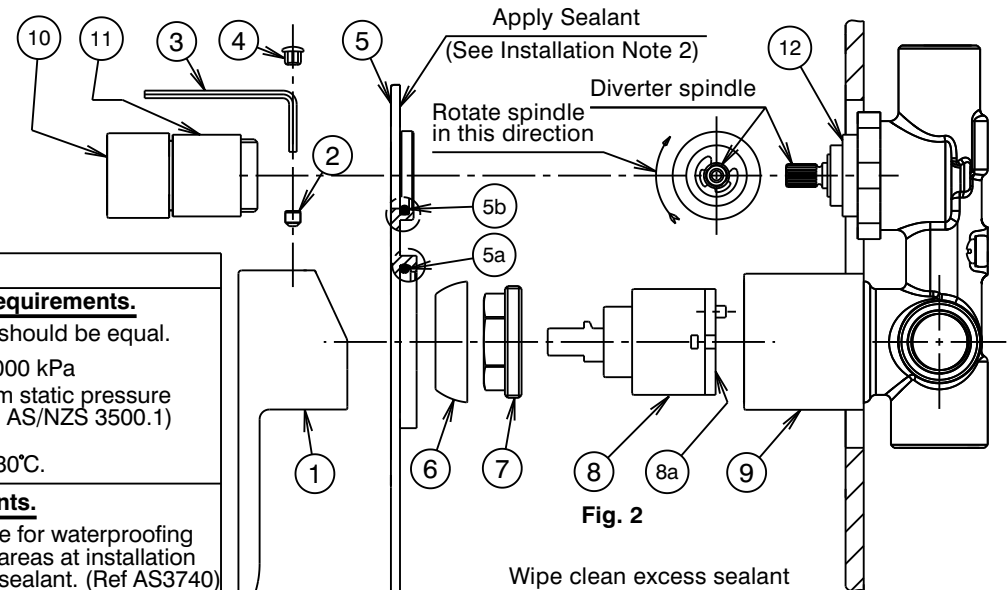

Fig. 2
- * Mixer body (9) must be installed square to wall/tile face, to ensure cover plate (5) sits flush.
- 2) Apply a suitable clear sealant to the back edge of the cover plate (5), leaving an unsealed section at the bottom for drainage. Rotate the spindle of diverter in a clockwise direction to the stop position (Fig.2) then carefully slide the O'Ring (5a) in cover plate (5) over the mixer body (9). Push the cover plate (5) firmly against the wall/tile face. Wipe/clean excess sealant from the chrome surfaces & the wall/tile face (See Fig. 1). Insert the diverter body (11) through the O'Ring (5b) in cover plate (5), ensuring the laser marking on the knob (10) is pointing upwards (Fig.3). Screw the diverter body (11) fully into the thread of mixer body (12) and tighten by hand.
- 3) Fit handle (1) taking care that it is pushed fully onto cartridge stem, then tighten grub screw (2) using the 2.5mm allen key (3). Fit plug (4), taking care not to damage the decorative finish.
Replacing Cartridge (Fig. 2)